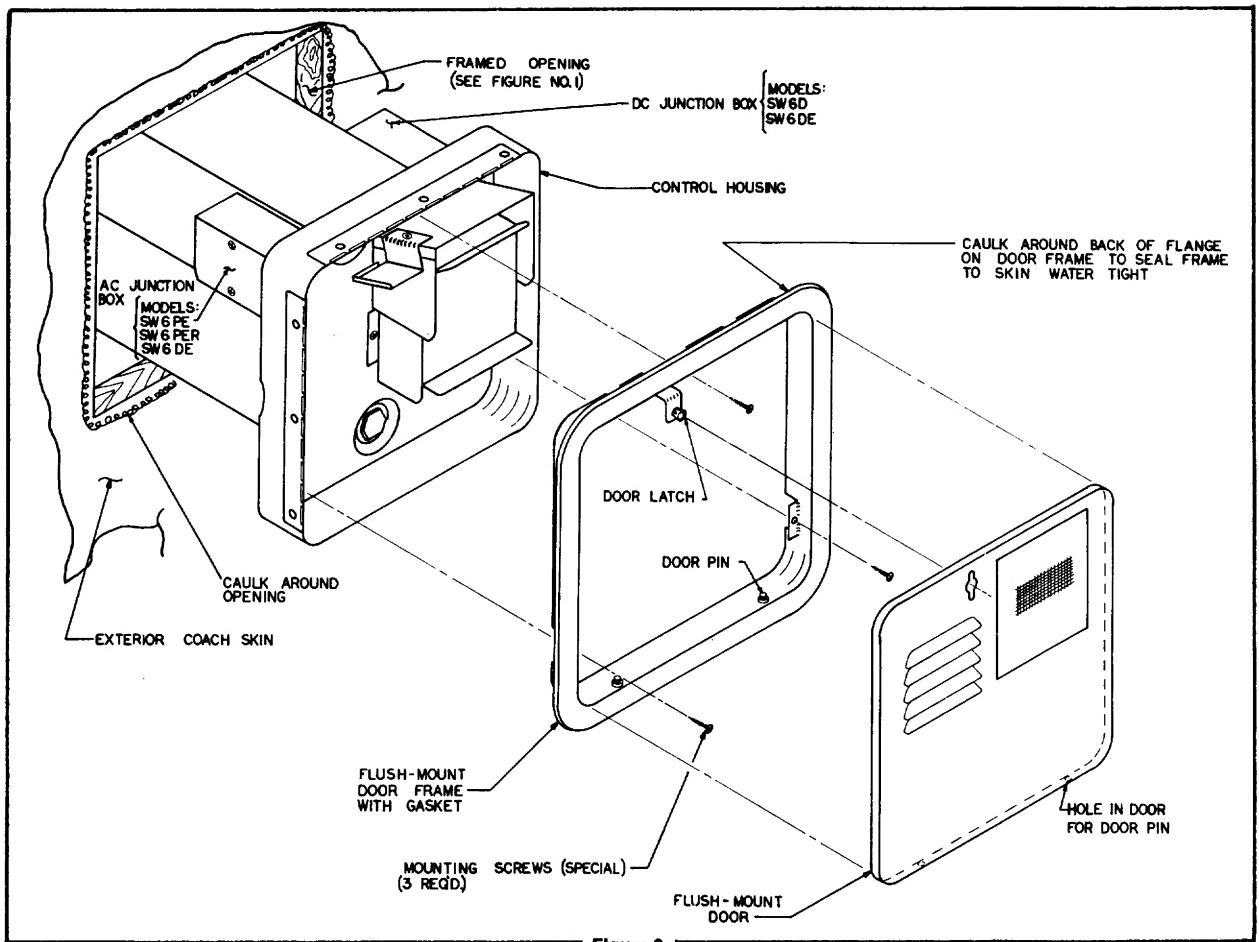
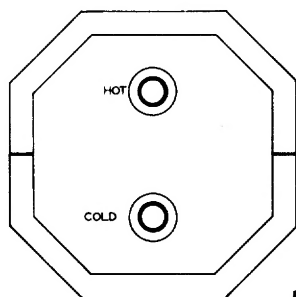
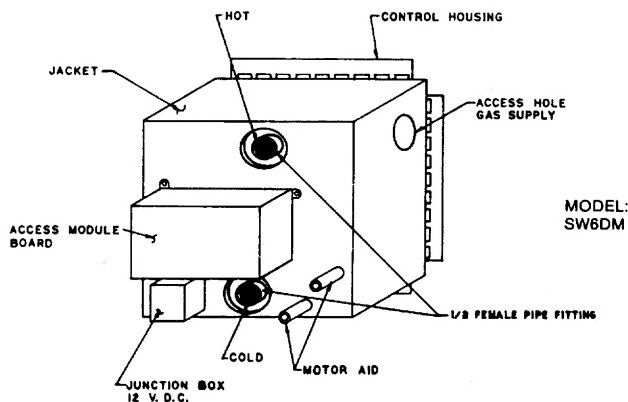

Figure 2
Figure 5
Figure 6
I. INSTALLATION USING FLUSH MOUNT FRAME AND DOOR (See Figure 2 for illustration)
- D. Insert door frame into control housing and secure with three (3) No. 8 x 3/4" screws provided. NOTE: Three (3) No. 8 x 3/8" screws installed at factory to seal extruded holes must first be removed.
A. Water connections are made at the rear of the water heater. Refer to Figure 5 for all models except SW6DM. For model SW6DM, refer to Figure 6. Connect the hot and cold water lines to the 1/2" female pipe fitting provided on rear of tank. These fittings are marked "HOT" and "COLD". NOTE: Inside each fitting is a plastic fill tube. Its purpose is to enhance water circulation. **DO NOT REMOVE PLASTIC FILL TUBE.**
B. Refer to Figure 2 for location of D.C. junction box on models SW6D and SW6DE. Refer to Figure 6 for location of D.C. junction box on model SW6DM.
B. Refer to Figure 2 for location of A.C. junction box.